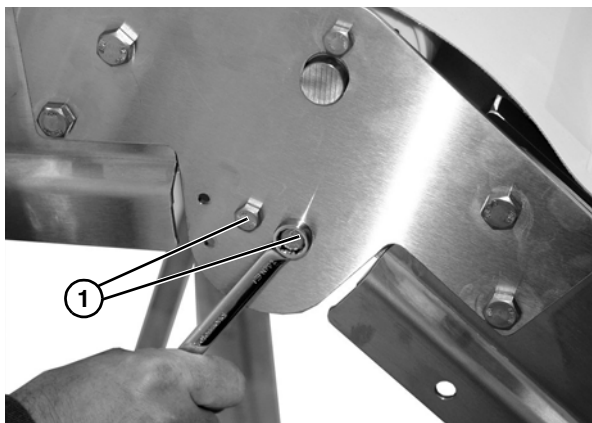

Figure 59
- Remove two cap screws (**Figure 59, item 1**) and bearing assembly on side of lower knuckle assembly.